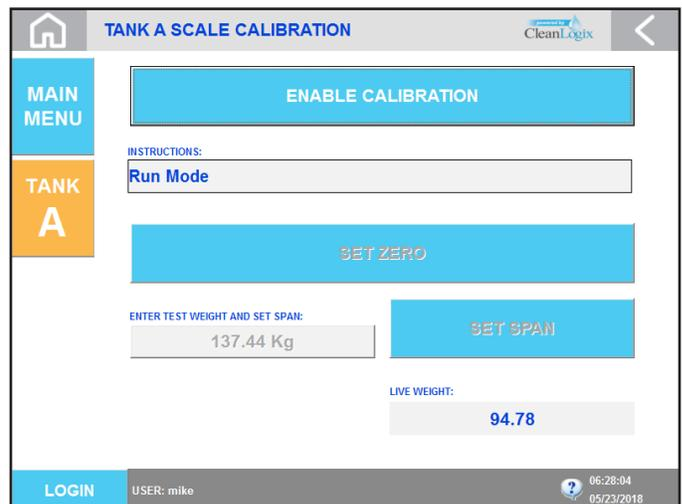

Figure 7.2: Scale Calibration Screen
6. Place a calibrated weight of a known value onto the floor scale. Use caution to make sure the weight does not shift or fall [Figure 7.2].